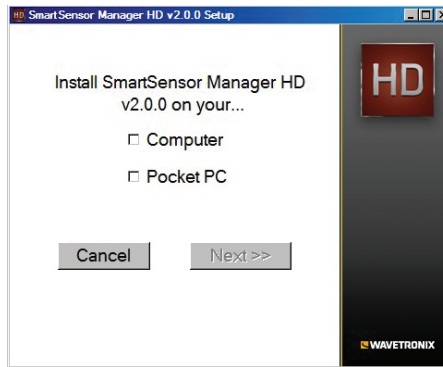

Figure 3.4 – Handheld Computer Installation Program
- 3 Click the **Pocket PC** checkbox and then the **Next>>** button to install SSMHD on a connected handheld device (see Figure 3.4). If both the **Computer** and **Pocket PC** boxes are checked, the setup program will first install the SSMHD software to the PC.